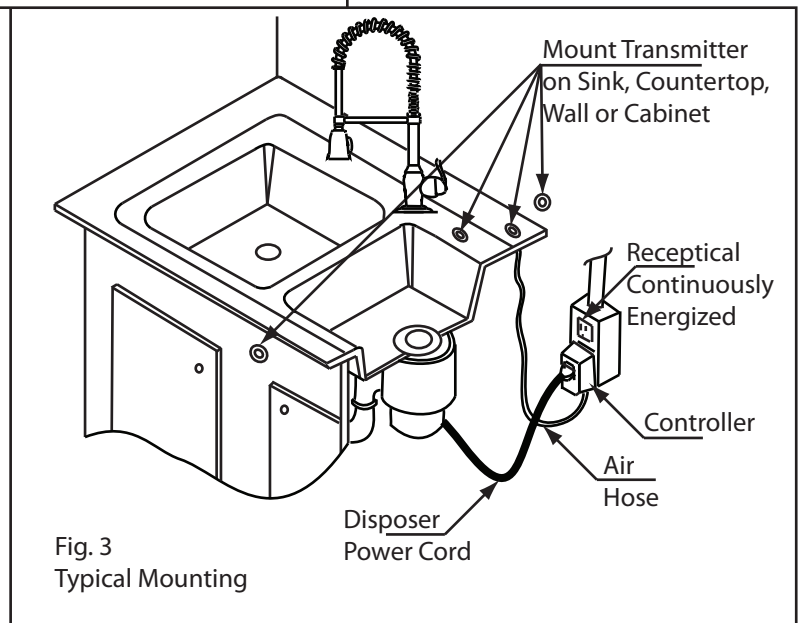

Fig. 3
- 1) The air transmitter must be mounted within 6 feet of the controller outlet. Select a location which is convenient for user operation and easily accessible for service and/or removal. See Fig. 3